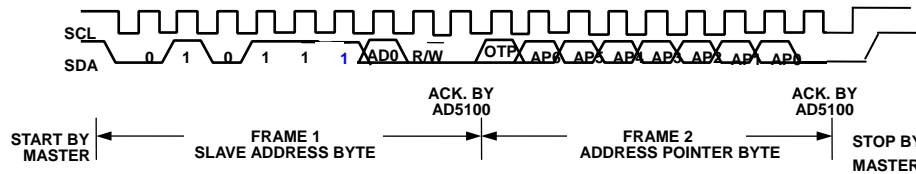
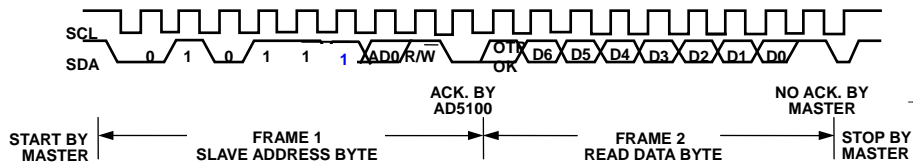

Figure 22. Dummy Write to set proper Address Pointer.
Figure 23. Read Data from the Address Pointer Register.
1. If the AD5100's Address Pointer Register value is unknown or not at the desired value, it is first necessary to set it to the correct value before data can be read from the desired data register. This is done by performing a write to the AD5100 as before, but only a value containing the register address is sent, because data is not to be written to the register. This is shown in Figure 22. A read operation is then performed consisting of the serial bus address, R/W bit set to '1', followed by the data byte from the data register. This is shown in Figure 23.